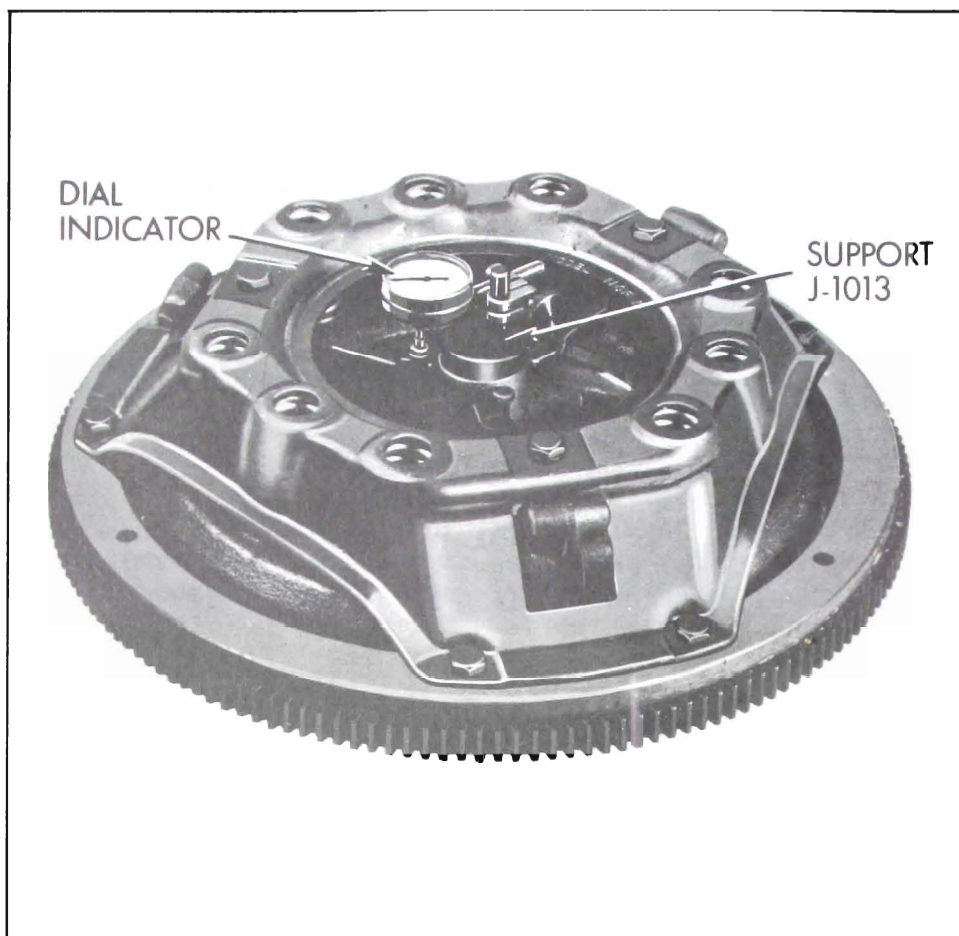

Figure 4-11—Checking Release Lever Height
1. Mount clutch assembly for checking by placing Adjusting Gauge J-1036 on a spare flywheel and then placing clutch assembly over gauge so that release levers are directly above machined bosses of gauge. See Figure 4-11.
3. Zero dial indicator by mounting dial indicator on Support J-1013. See Figure 4-11. Then set support on flat surface, press indicator down against surface until indicator hand turns approximately one revolution, and tighten indicator to support. Now set indicator face to zero.